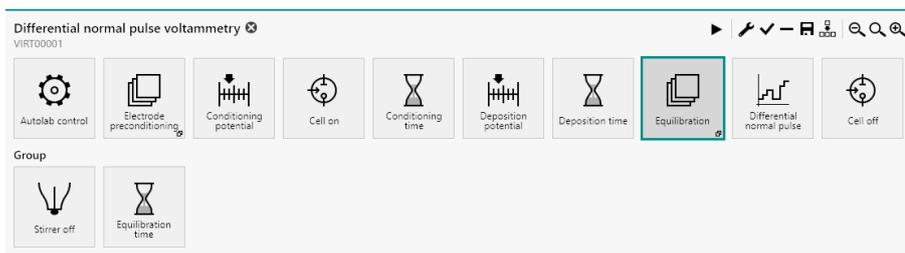

Figure 648 The Equilibration group
- Equilibration:** this command group is used to create an equilibration step in the procedure. The commands in this group are used to switch the stirrer off and wait for the specified amount of time (see figure 648, page 544).